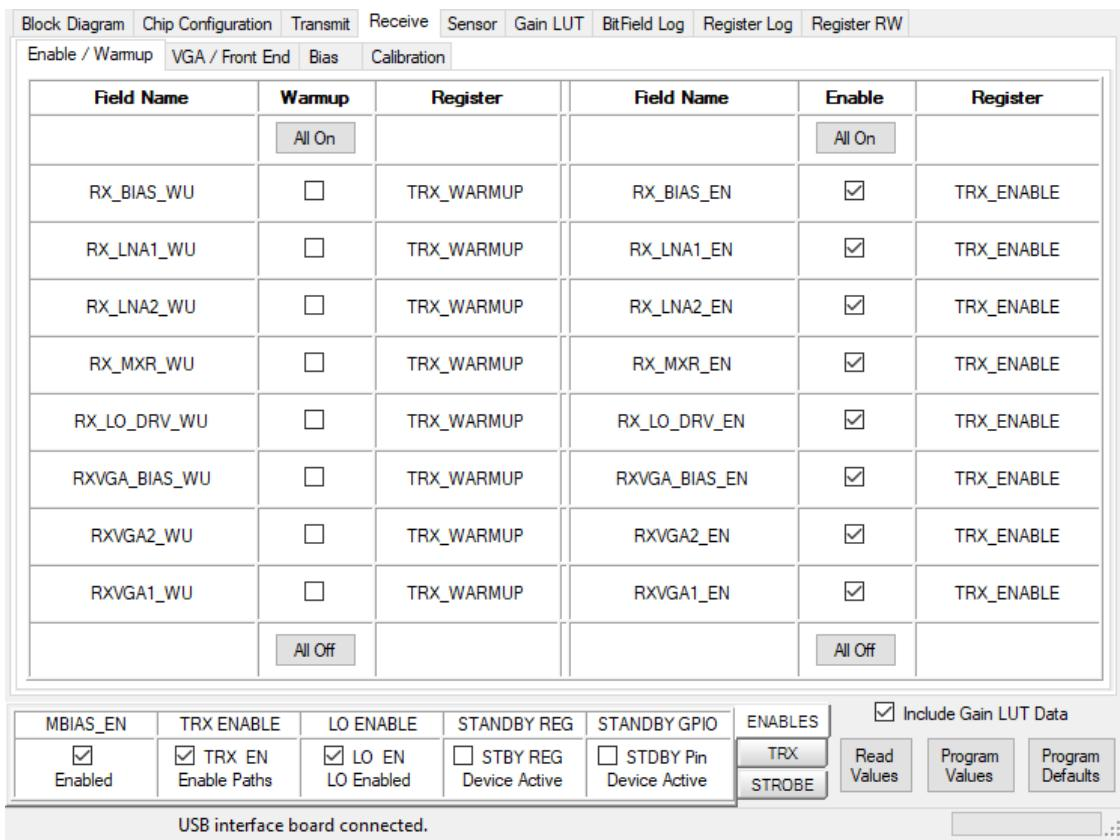

Figure 17. Receive: Enable / Warmup Panel
12. Similarly, in receive mode, individual receive building blocks and their warmup states can be configured by selecting **Receive panel** tab (Figure 5, item 10) and **Enable / Warmup** subpanel tab as shown in Figure 17.